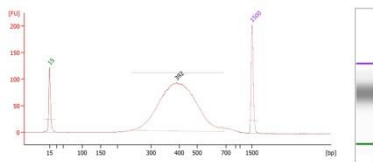

Figure 2 The Agilent 2100 Result of RAD Library PCR Product
- 3.12.2 Assess the fragment size distribution of purified PCR products with Agilent 2100 Bioanalyzer or other electrophoresis-based equipment. The main DNA fragment size should be around 400 bp without dimers or other contaminants. The Agilent 2100 Bioanalyzer result is shown as Figure 2.